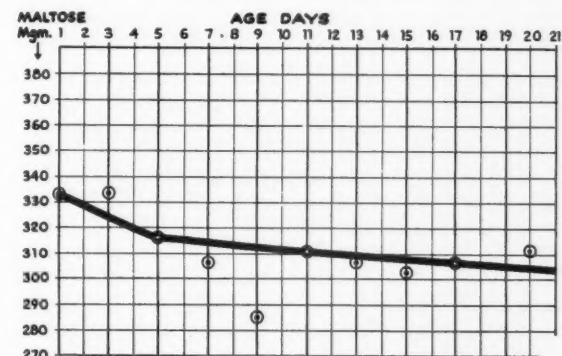

Fig. 6. Maltose value vs. flour age as milligrams maltose sugar.
Maltose values determined by the Blish-Sandstedt method (1) are shown graphically in Fig. 6. There is a gradual decline in this value indicating some deterioration as regards this factor.